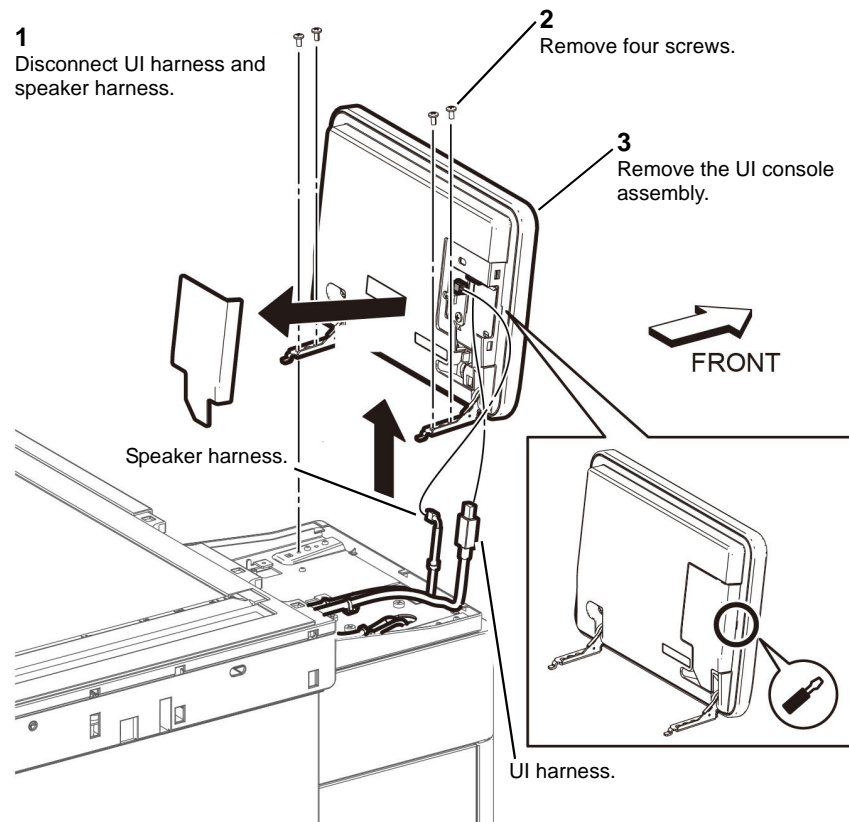

Figure 1 UI console assembly
3. Remove the UI console assembly from the UI frame assembly, Figure 1.